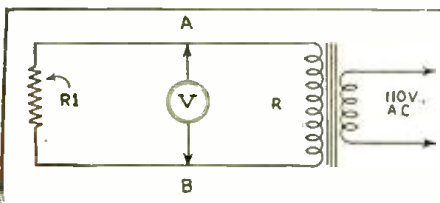

Fig. 1
As an example of how this equation can be used in practice, take the case of the transformer shown in Fig. 1. The value, e, measured at points AB without load, is found to be 320 V. The value, R, as measured with an ohmmeter, is 400 ohms, which is its D.C. resistance; however, it was found that at 60 cycles, the difference between this value and the A.C. impedance is negligible and hence the error introduced was of no consequence. Resistor RL is a voltage divider of 6,000 ohms resistance. What we want to know is: what will be the transformer voltage with this 6,000 ohm load? Substituting the above values in equation (1) gives —300 V.